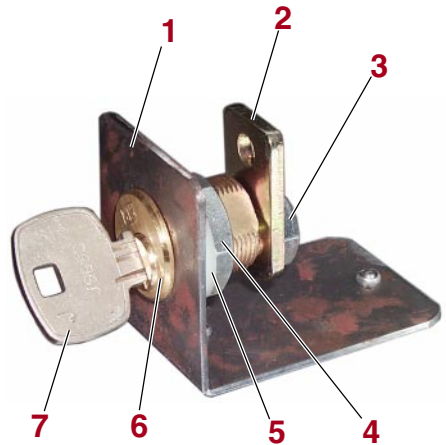

Figure 10
- 1.- Install the lock in the support as shown in **figure 10**.